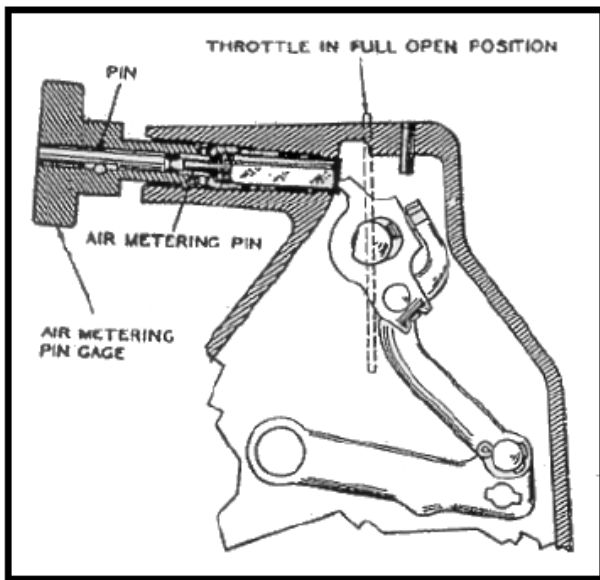

Figure 2-25. Setting the Air Metering Pin
- r. Place the bowl vent housing gasket (45) on the throttle body (80) and set the bowl vent strainer screen (40) into the recess in the throttle body. Place the bowl vent strainer screen housing (39) on the bowl vent housing gasket (45) and place the bowl vent strainer screen housing (39). Install the two bolts (41) with special washers (42) and lock washers (43). Bend one or two tabs of the special washers (42) against corresponding faces of the bolts (41).
- s. Place the fuel inlet strainer gasket (32) on the fuel inlet strainer assembly in the throttle body (80), and tighten to between 35 and 40 inch-pounds. Make certain that the notch in the gasket (32) engages the projection on the throttle body (80). Bend two or more tabs of the gasket (32) against a corresponding face of the fuel inlet strainer assembly (31).
- t. Place the fuel inlet gasket (29) on the fuel inlet connection (27) and install the fuel inlet connection in the throttle body (80). Make certain that the notch ion the gasket engages the projection on the throttle body. Bend two or more tabs of the gasket (29) against the corresponding face of the fuel inlet connection (27).
- u. Slide the small end of the air metering pin return spring (25) on the end of the air metering pin (26) and insert the air metering pin and spring into the air metering pin jet (24). Insert the air metering pin jet (24), with the needle and spring in place, into the throttle body (80) and rotate it into the throttle body approximately 1/4 inch. Hold the throttle valve in the wide-open position and, using the air metering pin gage (4, figure 2-17), rotate the air metering pin jet (24, figure 2-19) until the end of the pin in the air metering pin gage is flush with the outer surface of the tool. (See figure 2-25.)
- v. Place the air metering pin jet plug gasket (23) on the air metering pin jet plug (22) and install the plug inn the throttle body (80). Tighten the plug securely and install the locking wires (21). Twist the outer